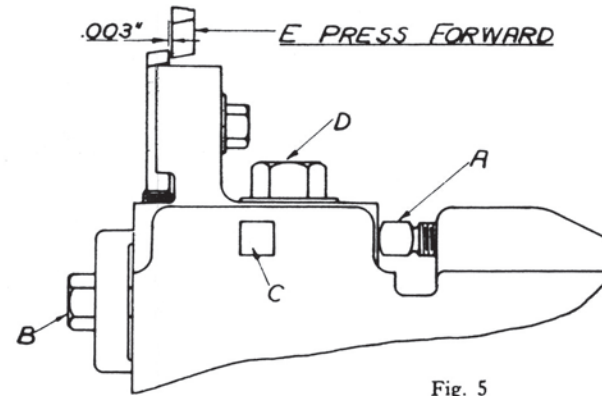

Fig. 5
4. The clearance, or the distance between the bottom cutter and the top cutter, as shown in Fig. 5, should be determined with a .003" feeler gauge.